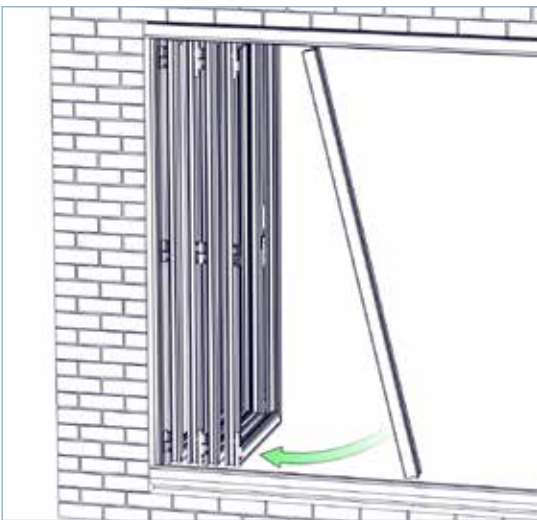

FIG 8A
- ▶ **8.3.** Position the mullion into the tracks and slide along to mate with the hinges and trolleys as shown in FIG 8A.